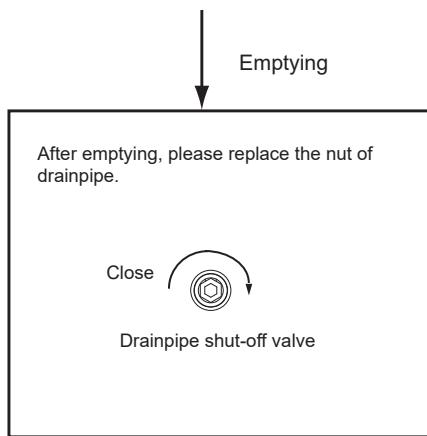

Fig.4-2
- **Emptying:** If the unit needs cleaning, moving etc, the tank should be emptied. Method: See *Fig.4-2*: